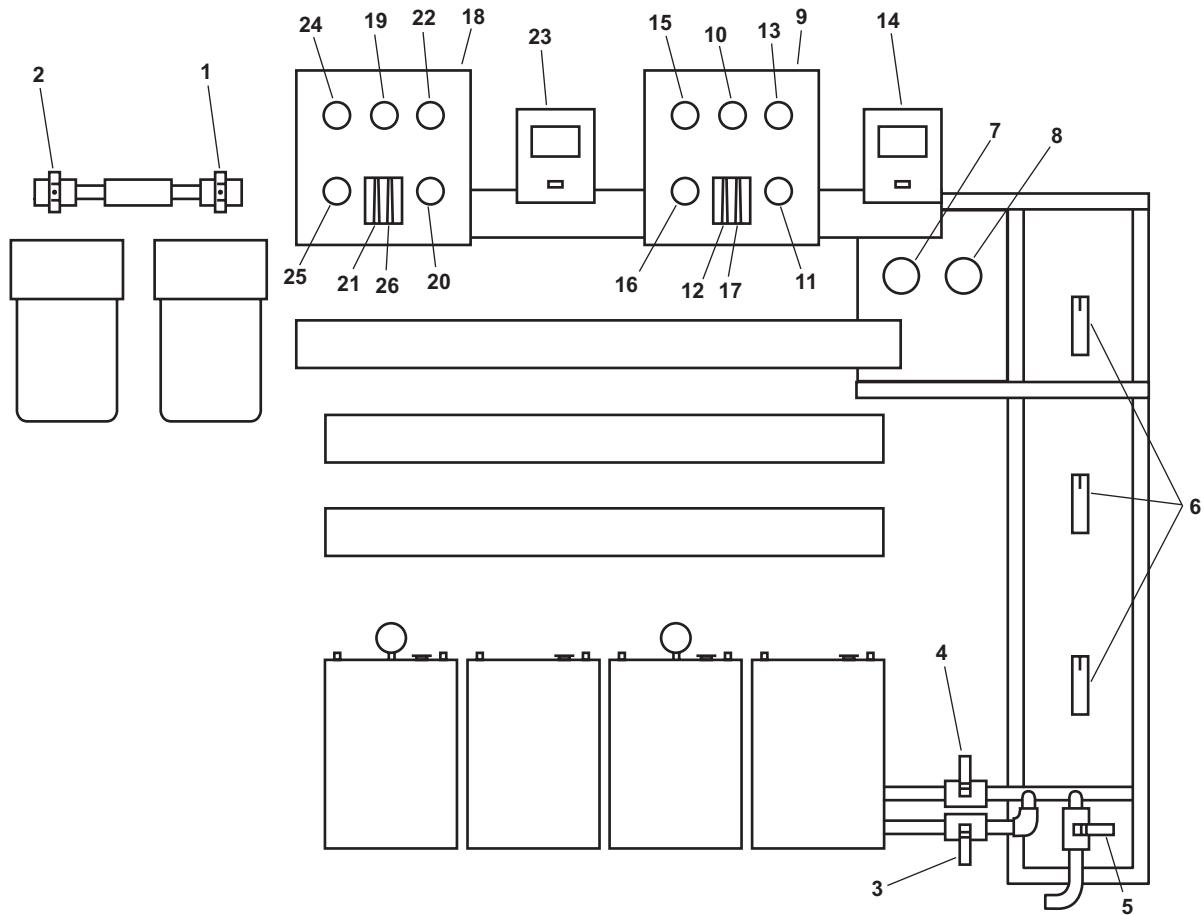
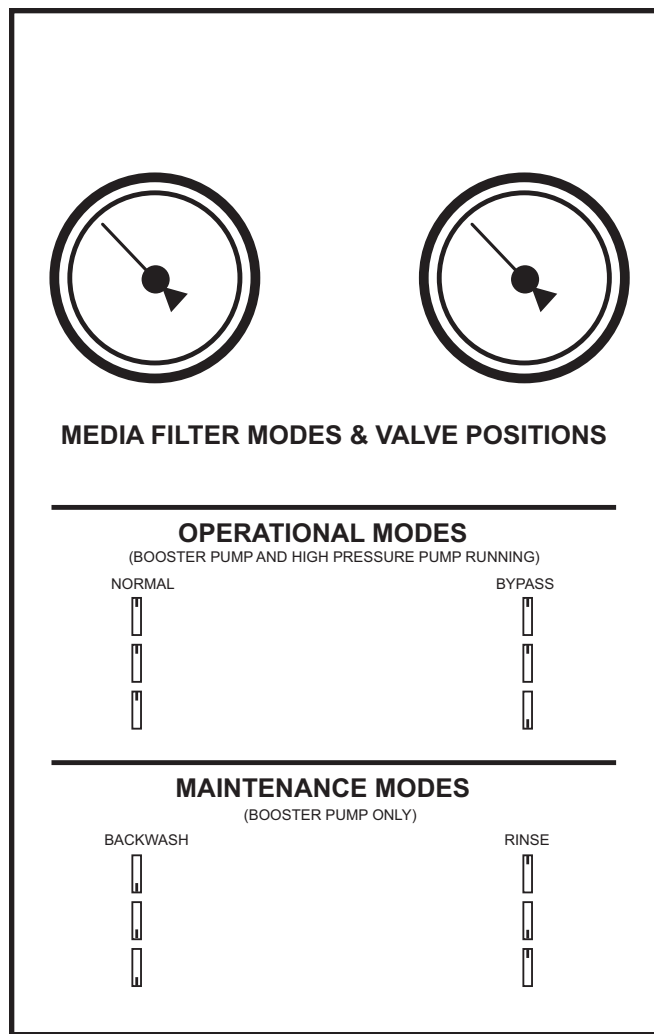
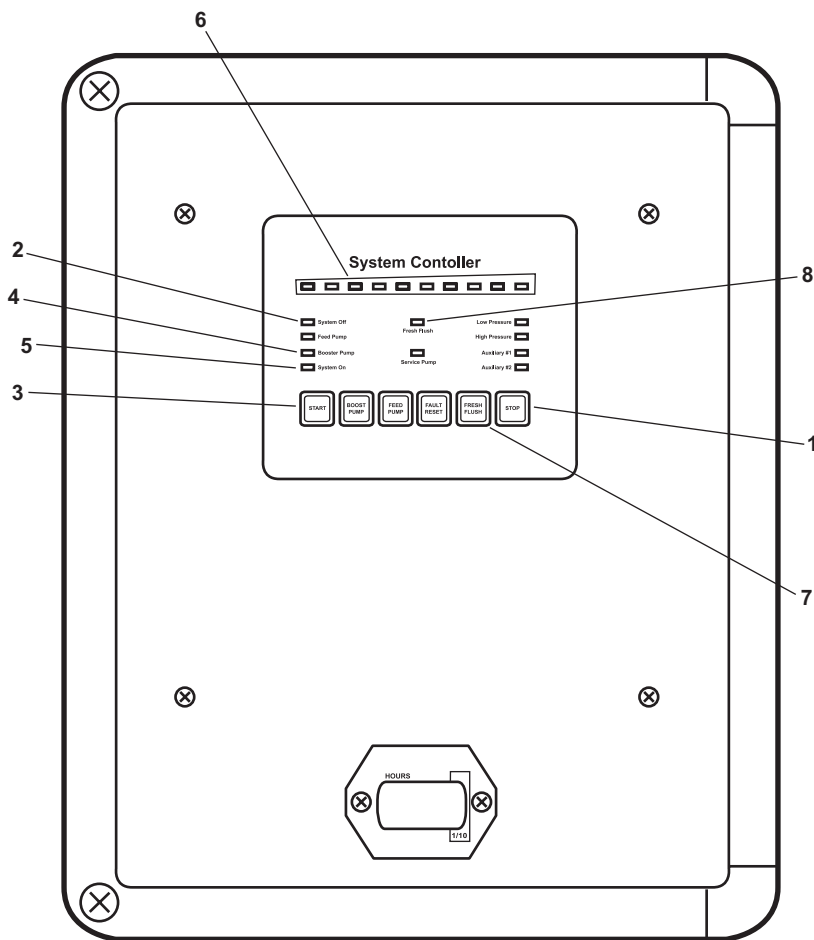

Figure 10. ROWPU System, Front View
Figure 13. Media Filter Maintenance Mode Valve Positions
Figure 14. System Controller
- a. RO-V-7 (figure 10, item 1), backflow preventer supply valve
- b. RO-V-6, (figure 10, item 2), backflow preventer discharge valve
- c. RO-V-1-1 (figure 10, item 3), ROWPU 1 inlet sea water supply
- d. RO-V-2-1 (figure 10, item 4), ROWPU 2 inlet sea water supply
- f. RO-V-5 (figure 10, item 5), cleaning supply
4. Align the media filter maintenance mode valves (figure 10, item 6) to the "BACKWASH" position as shown in figure 13.
6. Verify that the media filter INLET PRESSURE gauge (figure 10, item 7) does not exceed 45 PSI (3.1 bar).
7. Verify that the pressure differential between the media filter INLET PRESSURE gauge (figure 10, item 7) and the media filter OUTLET PRESSURE gauge (figure 10, item 8) does not exceed 20 PSI (2.4 bar).
8. BACKWASH the media filter for a minimum of 10 minutes, or until differential pressure between the media filter INLET PRESSURE gauge (figure 10, item 7) and the media filter OUTLET PRESSURE gauge (figure 10, item 8) is less than 5 PSI (0.3 bar).
10. Align the media filter maintenance mode valves (figure 10, item 6) to the "RINSE" position as shown in figure 13.
- d. RO-V-5 (figure 10, item 5), cleaning supply
16. Align the media filter maintenance mode valves (figure 10, item 6) to the "NORMAL" position as shown in figure 13.
- a. RO-V-1-1 (figure 10, item 3), ROWPU 1 inlet sea water supply
3. At ROWPU 1 flow control panel (figure 10, item 9), perform the following:
- a. Verify that the HIGH PRESSURE PUMP INLET pressure gauge (figure 10, item 10) indicates a minimum of 10 PSI (0.7 bar).
- b. Fully OPEN the SYSTEM HIGH PRESSURE REGULATOR valve, RO-V-1-3 (figure 10, item 11).
- c. Observe the BRINE flow meter (figure 10, item 12) until it displays a minimum reading of 1 gal/min (3.8 l/min) with few or no bubbles present.
- d. Verify that the SYSTEM OPERATION PRESSURE gauge (figure 10, item 13) does not rise above 50 PSI (3.4 bar).
4. At the ROWPU 1 system controller (figure 10, item 14), perform the following:
- a. Press the STOP pushbutton (figure 14, item 1), and verify that the SYSTEM OFF indicator (figure 14, item 2) is illuminated.
- b. Press the START pushbutton (figure 14, item 3) and verify the following:
- (1) BOOSTER PUMP indicator (figure 14, item 4) illuminates.
- (2) SYSTEM ON indicator (figure 14, item 5) is illuminated.
5. Verify the following conditions at the ROWPU 1 flow control panel (figure 10, item 9):
- a. The BRINE flow meter (figure 10, item 12) displays a minimum flow reading of 4 gallons (15.1 liters) per minute with no bubbles present.
- b. The BRINE DISCHARGE PRESSURE gauge (figure 10, item 15) indicates less than 15 PSI (1 bar).
- c. The PRODUCT WATER OUTPUT PRESSURE gauge (figure 10, item 16) indicates approximately 0 PSI (0.0 bar).
- d. The SYSTEM OPERATION PRESSURE gauge (figure 10, item 13) indicates less than 50 PSI (3.4 bar).
- e. The PRODUCT WATER flow meter (figure 10, item 17) indicates less than 1 gallon (3.8 liters) per hour.
6. Allow the system to operate in this configuration for approximately two minutes. Ensure that all gauges stabilize, and most of the air is purged from the system as indicated by a fluid stream with few or no bubbles flowing through the BRINE flow meter (figure 10, item 12).